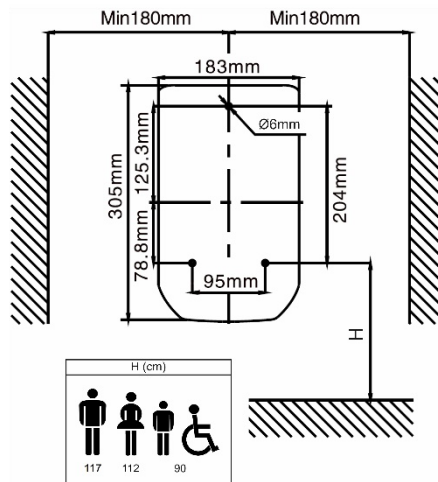

Fig. 3
- (Fig. 3) Ensure that the installation site respects the minimum clearances indicated. We recommend you vary the height at which you install the appliance depending on whether it is to be installed for use depending on whether you wish to install it in a men's, women's, children and disabled.